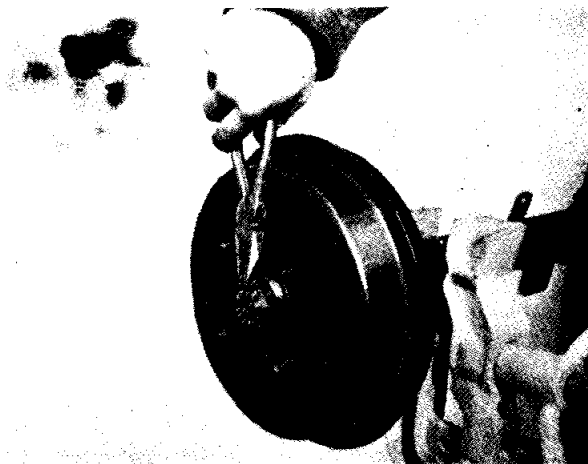

Fig. 11 Removing split pin from hub securing nut.
- (c) Remove split pins (as shown in Fig. 11)